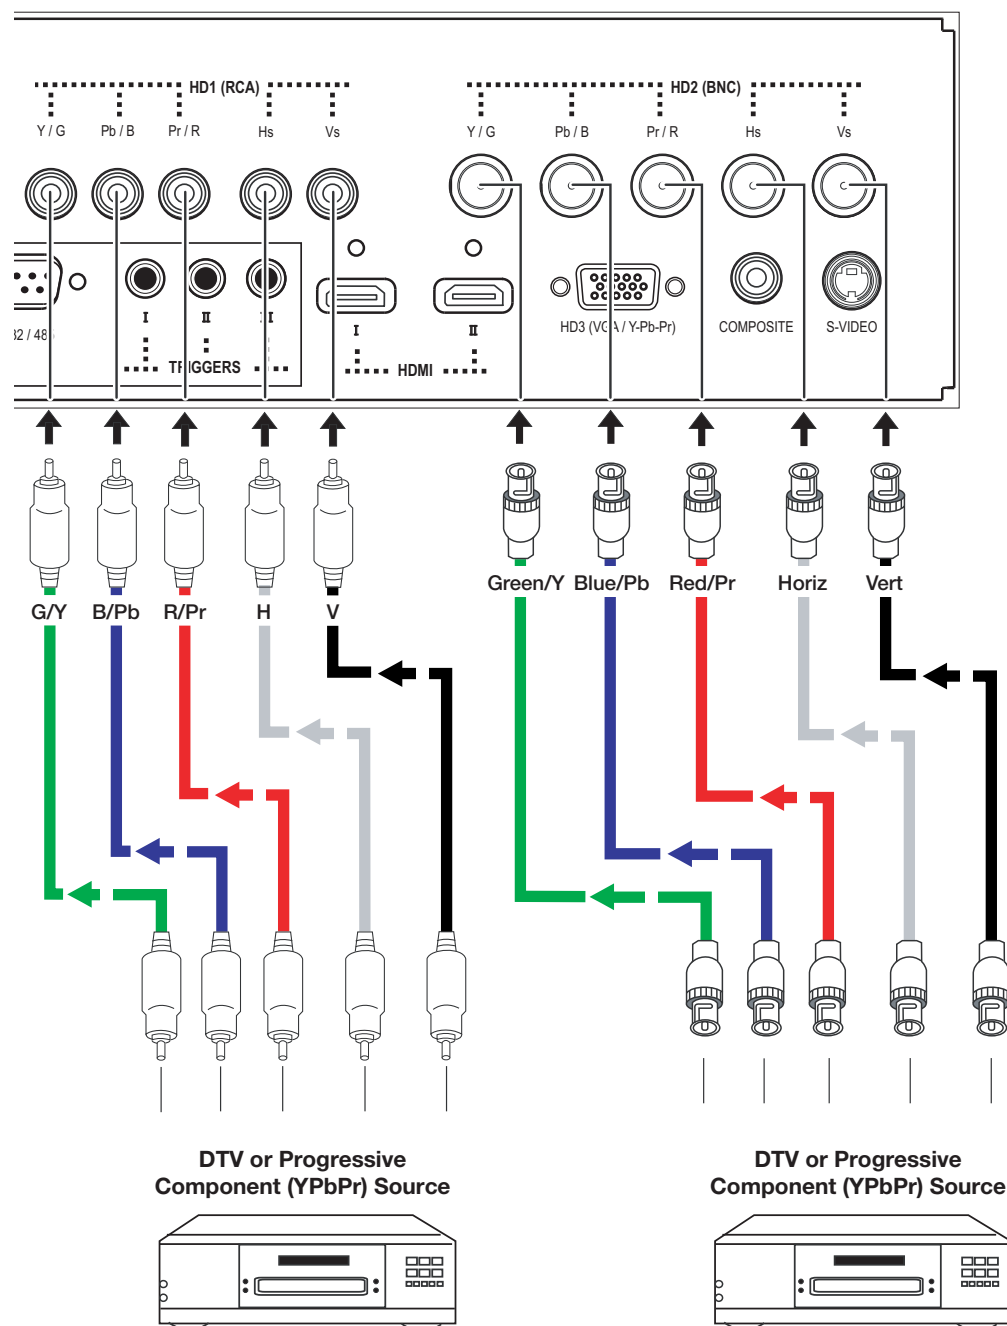
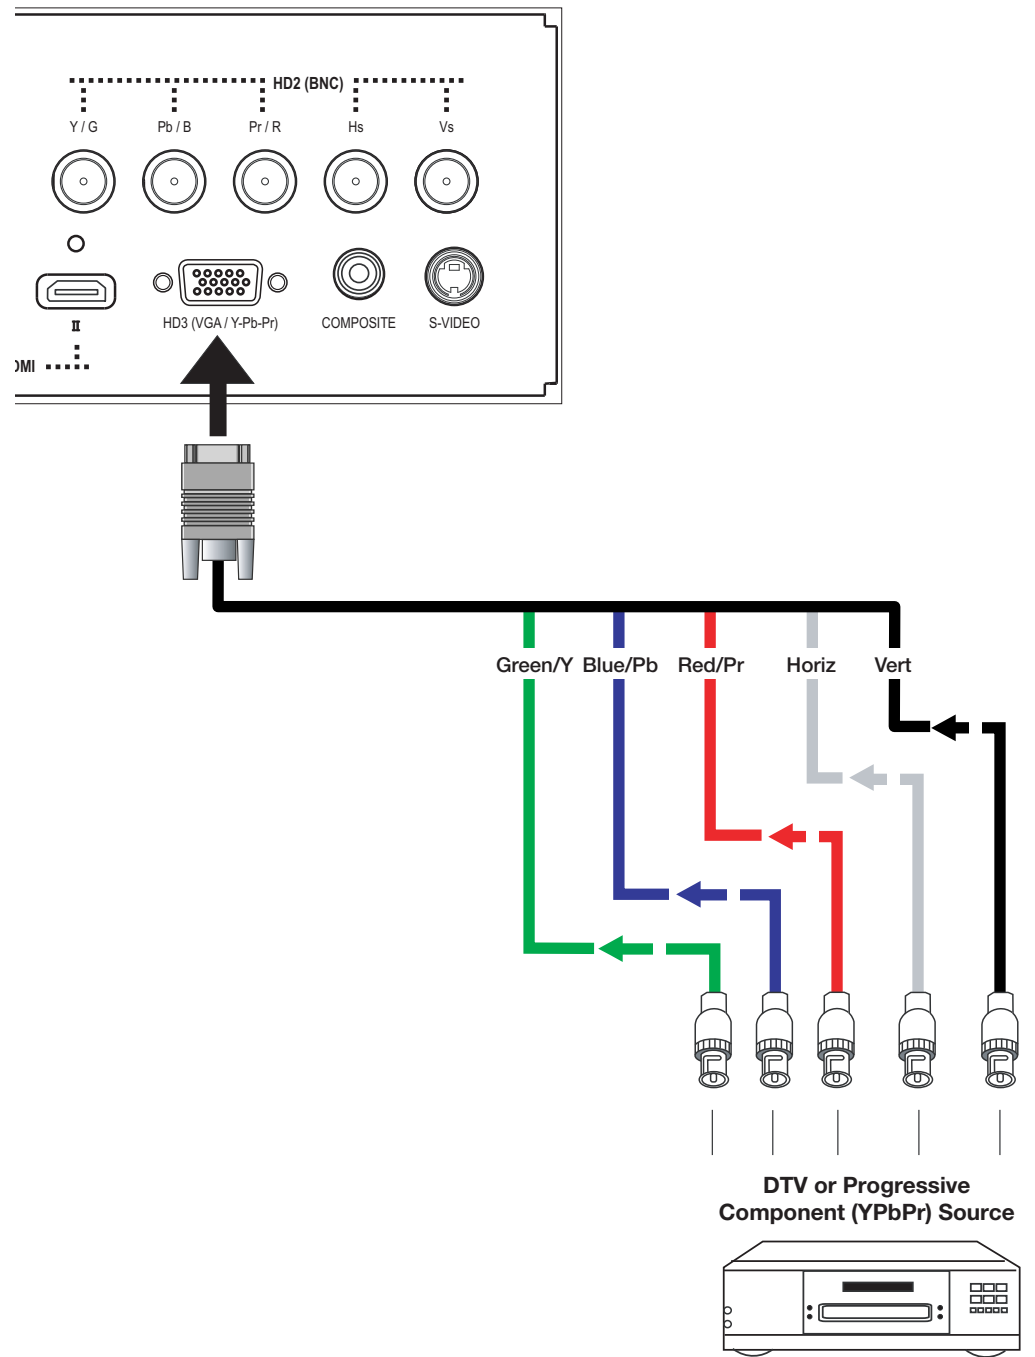

**Figure 3-12. Digital (DTV) RGB or Component Video Connections (HD1, HD2)**
**Figure 3-13. Digital (DTV) RGB or Component Video Connections (HD3)**
**Digital (DTV) RGB or Component Video Connections:** See Figure 3-12 and Figure 3-13.